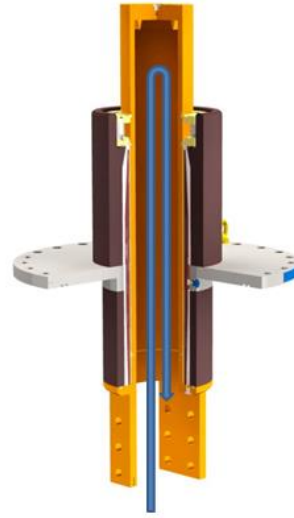

Fig. 8
- Forced cooling system: the bushing conductor made of a cylindrical tube, inside which a smaller tube is inserted by the generator's manufacturer. The generator's forced cooling fluid flows in the bushing through the smaller tube and removes the heat produced by the current. Fig. 8.